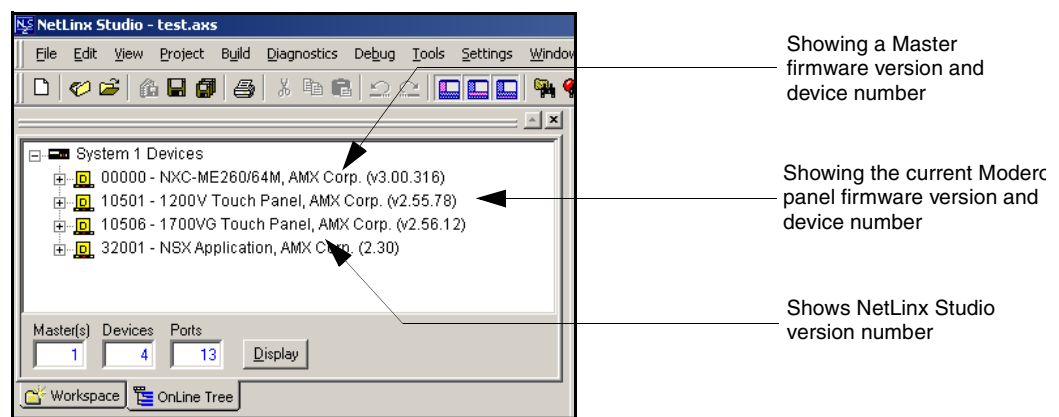

FIG. 73 NetLinX Workspace window (showing panel connection via a Virtual NetLinX Master)
3. After the Communication Verification dialog window verifies active communication between the Virtual Master and the panel, click the **OnLine Tree** tab in the Workspace window (FIG. 73) to view the devices on the Virtual System. *The default System value is one.*
4. Right-click on the System entry (FIG. 73) and select **Refresh System** to re-populate the list. Verify the panel appears in the **OnLine Tree** tab of the Workspace window.